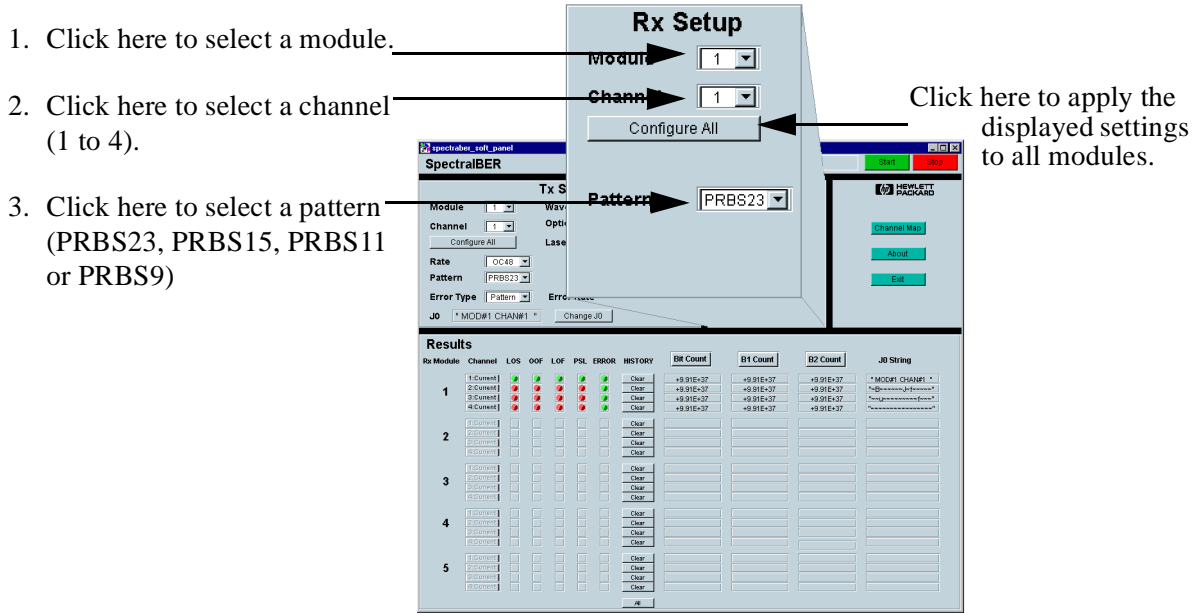

Figure 3-1. Optical Receiver Module Setup
- Figure 3-1 on page 24 shows a typical soft panel, and how to set up an Optical Receive module.